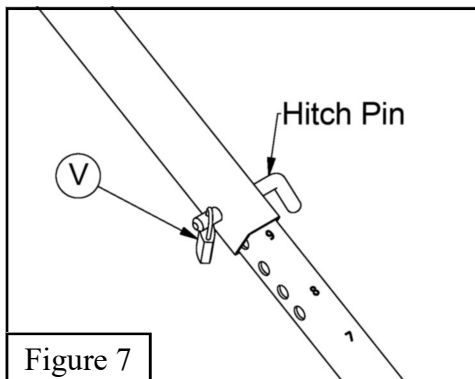

Figure 7
7. Recheck the *Backboard* (J) and *Breakaway Goal* (L) ensuring they are still level. Readjust as necessary.
8. Without attaching the *Backboard Braces* (E), remove *Lock* (V) from the hitch pin, pull hitch pin from the telescoping height adjuster and raise the goal to the 10' playing position and re-insert the hitch pin and *Pad Lock* (V). See Figure 7.